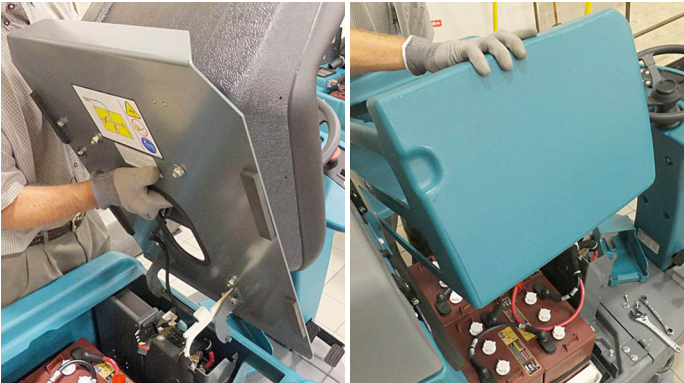

Fig. 1
2. Remove the operator seat and battery shroud from machine (Figure 1).
3. Remove the front two batteries from machine (Figure 1).